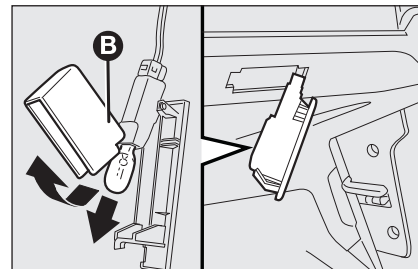

fig. 43
- open the protection cover **B**-fig. 43 and replace the snap-fitted bulb;